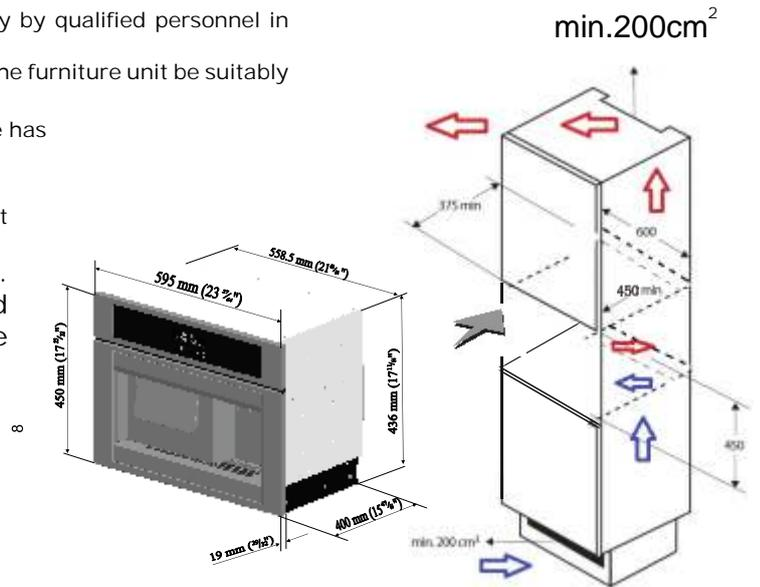

Fig. 1
- Check to make sure that the opening for housing the machine has the correct dimensions (Fig. 1).